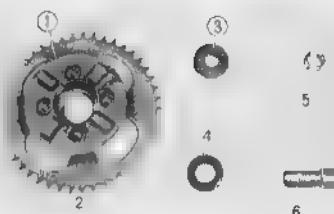

Fig. 4.97 Components parts of final driven flange
- ① Rim band
- ② Rear wheel rim
10. Remove the rear axle sleeve collar from the final driven flange oil seal (or seal No. 23406 used on frame Nos. S90-111565~S90-142498 and S90-424487~S90-493162 and subsequent oil seal No. 27406 used on frame No. S90-493162 frame No. S90-542753 A and subsequent), ball bearing 6203 Z. (Fig. 4.97)